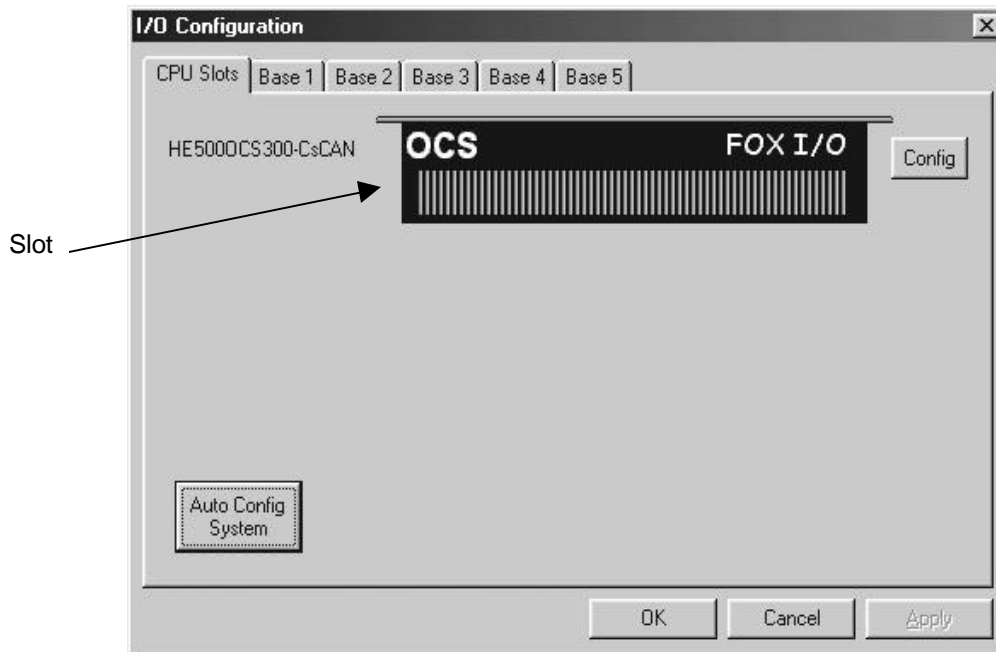

Figure 8.1 - Main Configuration I/O Screen
2. First, ensure that the desired controller is selected. The OCS300-CsCAN is shown as the selected controller (Figure 8.1) in this example. If satisfied with the controller selection, press a **Base #** tab, and go to Step 3. If a different controller) is desired (as it is in this configuration example), continue Step 2.
To select a different controller, click on the **Type** list box and select the desired controller. Then press OK. If satisfied with the controller selection, press a **Base #** tab at the top of the screen (Figure 8.1), and go to Step 3.